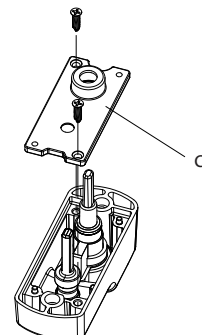

Fig. 4
4. Secure the plate (c) with the screws. (Fig. 4)